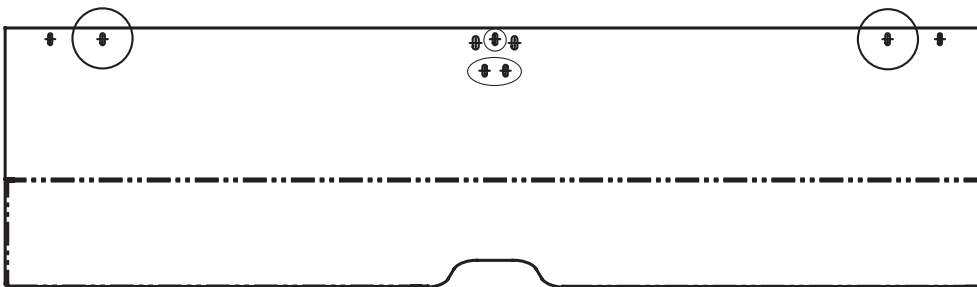
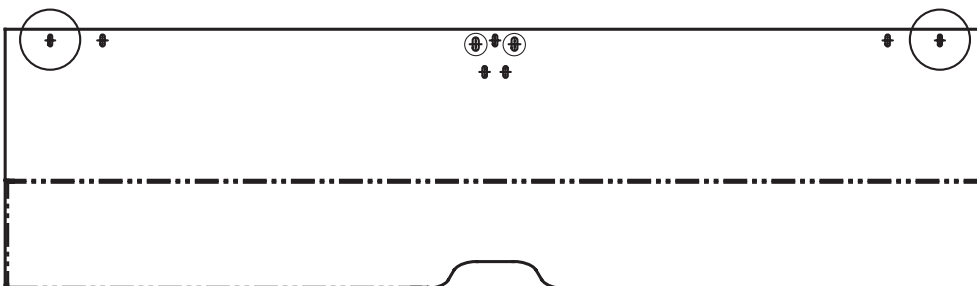

Figure 4
Figure 5
9. Install the correct bolts across the top of weldment cover piece. The number of bolts and specific holes used will be based on if the CNG system is McNeilus or Agility. Figure 4 (McNeilus) and Figure 5 (Agility) detail the specific holes for each system.